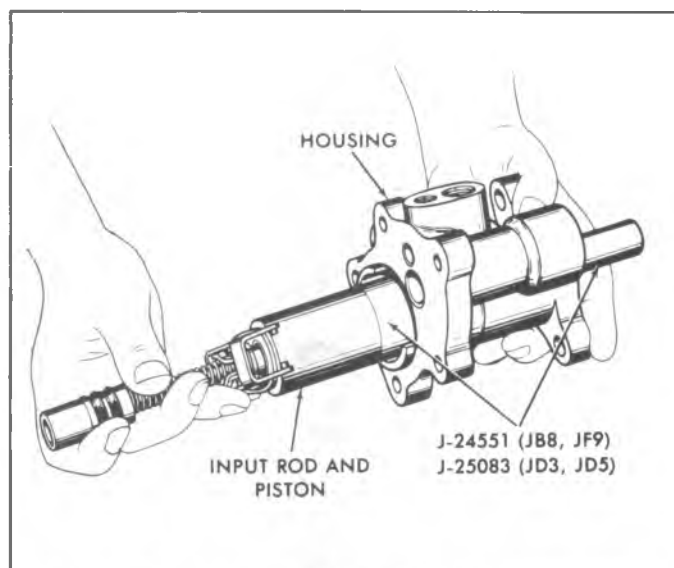

Fig. 5-13E--Installing Input Rod and Piston Assembly Into Booster (Typical)
8. Lubricate the piston and Piston Installing Tool with clean power steering fluid. Hold the large end of the tool against the piston (fig. 5-13E), and slide the tool and piston into the piston bore and through the piston seal. Remove piston installing tool.